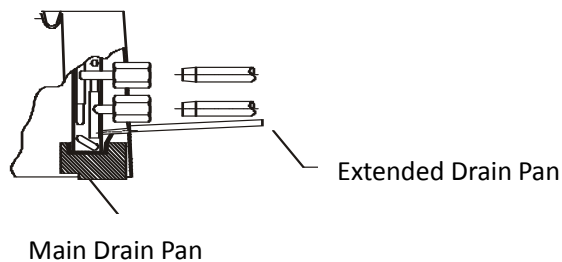

Figure 8
3. Tighten the two screws while making sure the external drain pan is installed evenly against the fixing plate. (Figure 8)